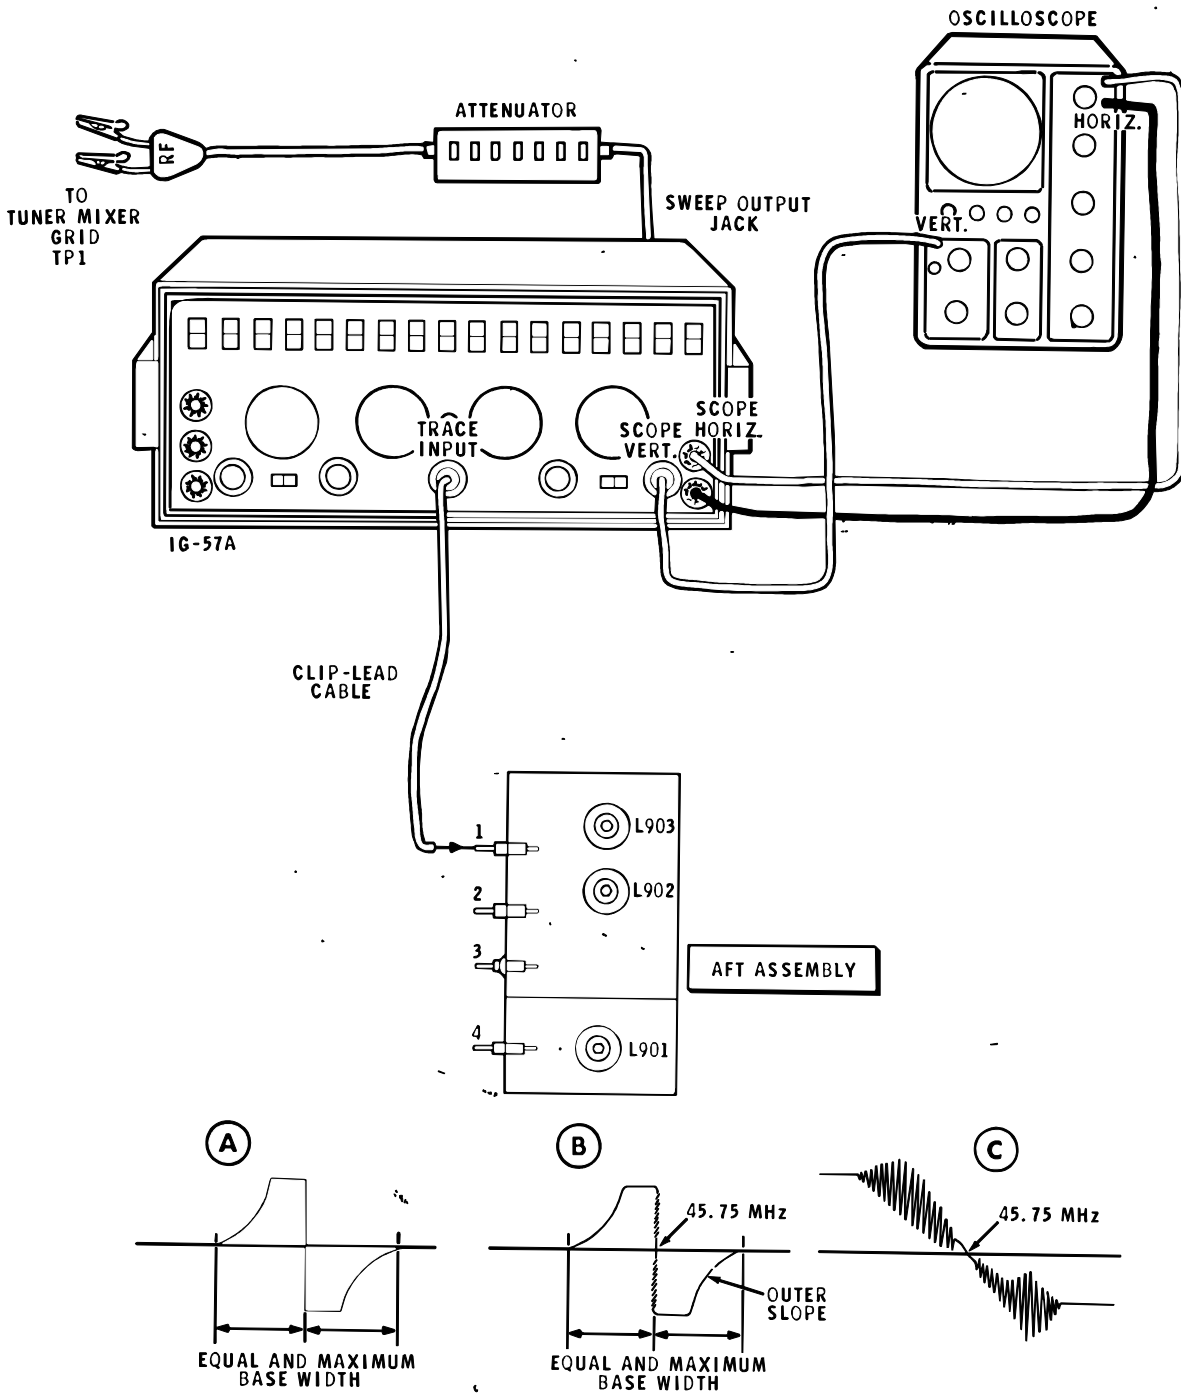

FIGURE 23
- 7. Connect the oscilloscope and generator together as shown in Figure 23 (fold-out from Page 81).
Refer to **Figure 23** for the following steps.
- () Adjust the output of the sweep generator until the top and bottom peaks of the waveform are just clipped as shown in Part A of **Figure 23**. NOTE: If the AFT was completely misaligned, a waveform may not be obtained. In this case, adjust the sweep generator for maximum output disregarding the absence of a waveform.